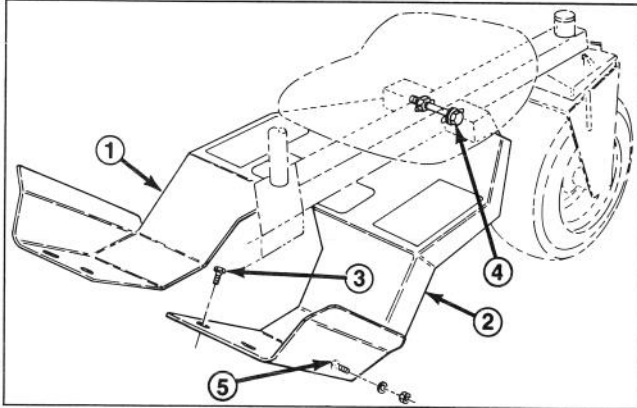

Figure 6
1. Loosely secure front of each fender to frame with (2) self tapping screws as shown in Fig. 6. Do not tighten screws.
2. Secure left fender to chain guard with a 5/16-18 x 3/4" lg. machine screw, washer and locknut (Fig. 6).